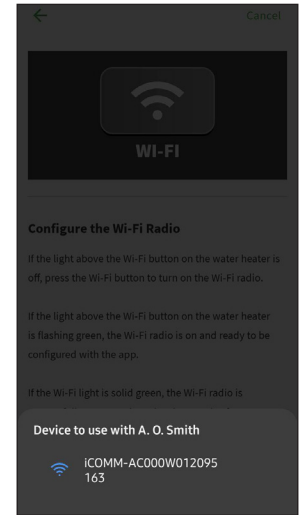

Figure 146 - Connect to iCOMM
- 2 The app will display a temporary Wi-Fi network to connect to your device. Select the network that matches the water heater DSN value, and your device will connect to the Wi-Fi radio (Figure 146). The app will begin the communication process of linking the water heater to the Wi-Fi router.